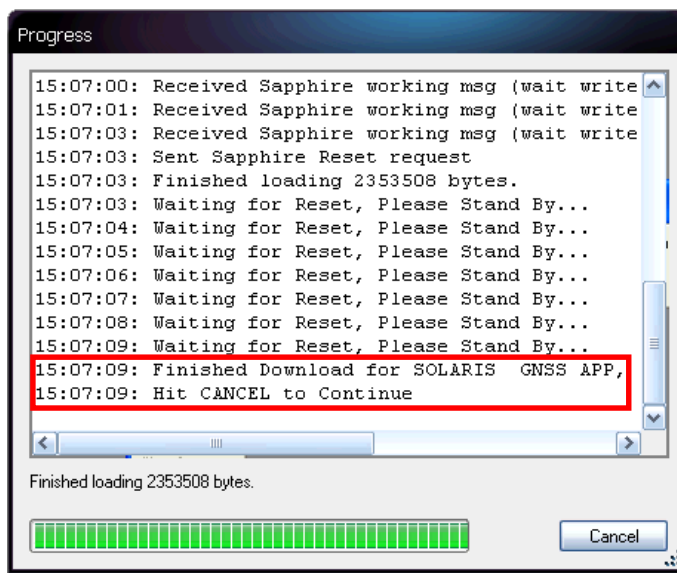

Figure 74: Progress [Load Firmware] Dialog Box
7. Click . A Progress dialog box opens. At the end of the upload, a “Finished loading” message indicating the number of bytes downloaded is displayed on the Progress dialog box (see Figure 74). Click  to continue.